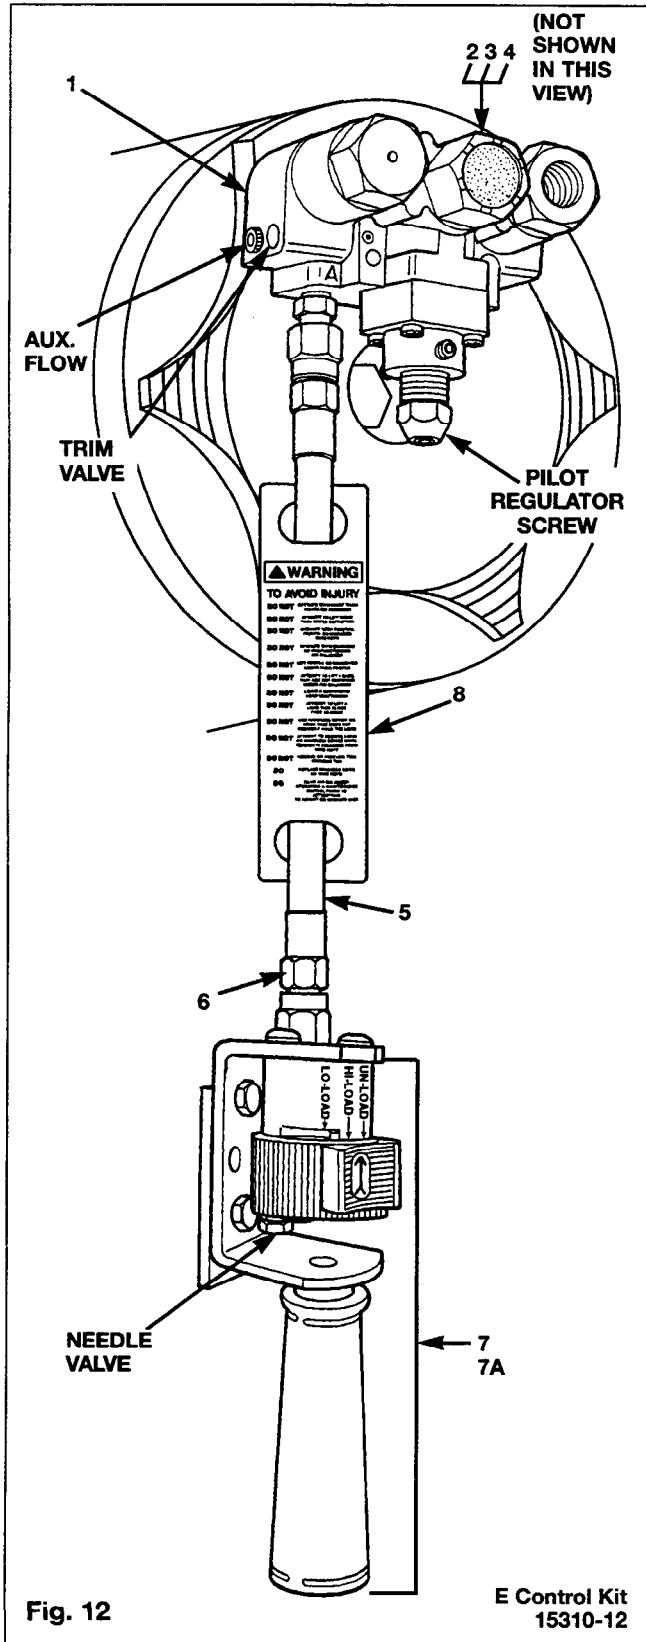

Fig. 12
(E) Regulator Installation Refer to Fig. 12.
Removal From Unit Refer to Fig. 12.